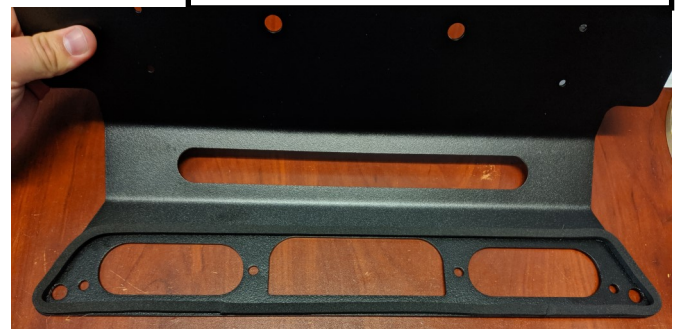

Figure 3—Gasket installation.
5. Install the gasket onto the side of the bracket that will be facing into the truck. This can be seen in **Figure 3**.